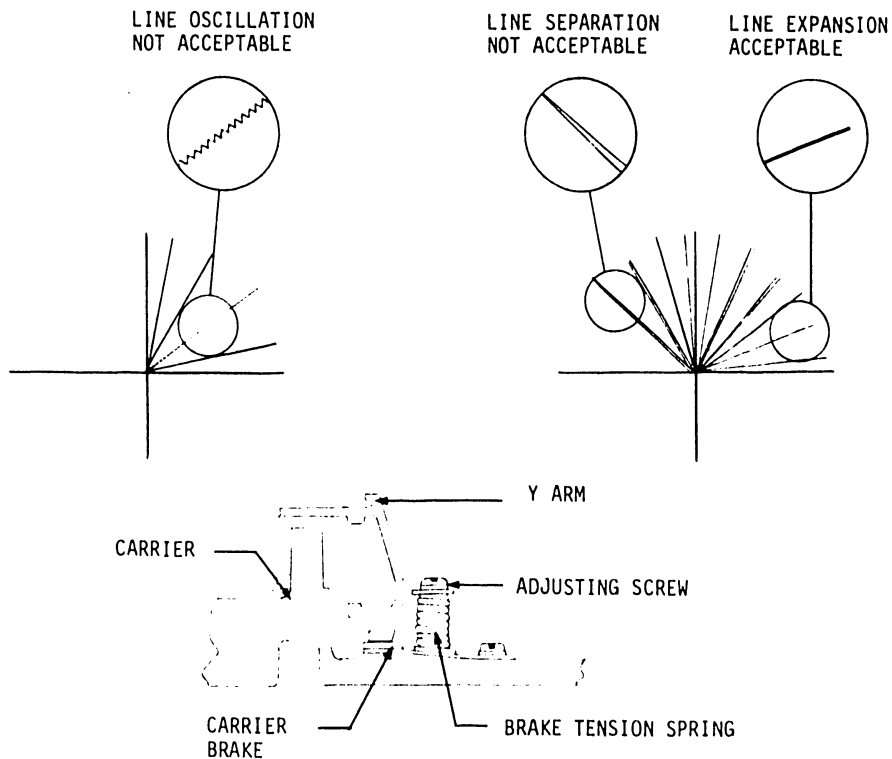

FIGURE 8
5.8 CARRIER BRAKE ADJUSTMENT (See Figure 8)